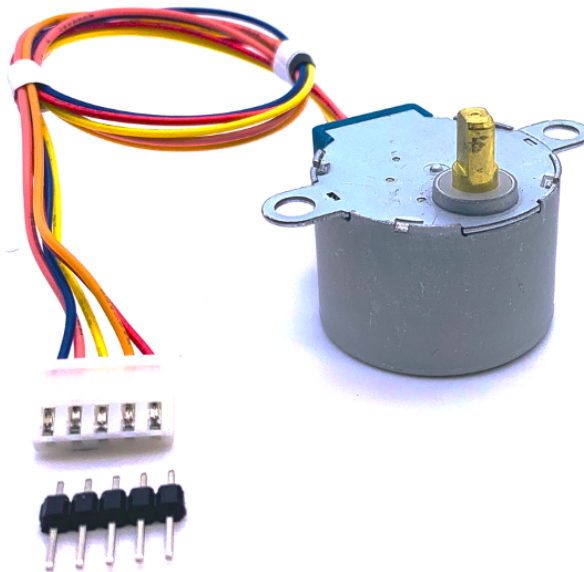

Figure 10.10 – 28BYJ-48 stepper motor
*In steps 2 through 5, we will connect the stepper motor in our breadboard circuit. A suggestion is to use header pins (as pictured in *Figure 10.10*) to connect your motor to a*